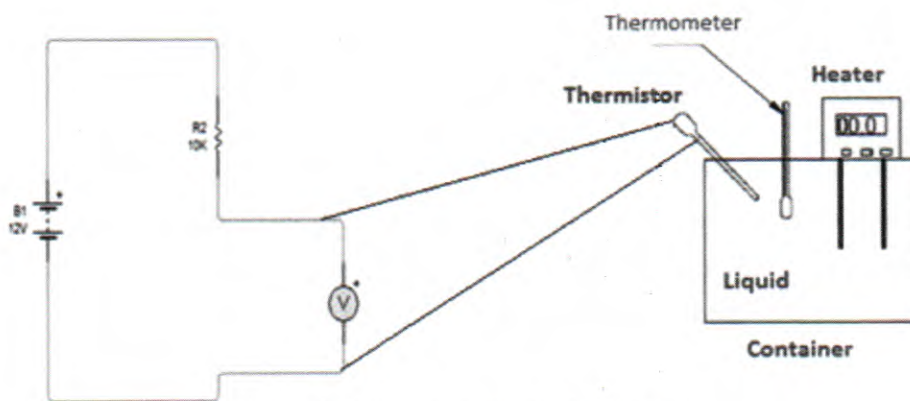

Figure 4.2: Illustration of Calibration Process
- i. Set up the circuit diagram on the breadboard as shown in Fig.4.2 with a wire wrapping to extend the lids of the thermistor.
- vi. Start your reading from 0°C , 5°C , or 10°C ; take not less than ten readings at a step of five. Plot the graph of Temperature ($^{\circ}\text{C}$) against Voltage (V). Calculate the thermistor resistance at each Voltage.